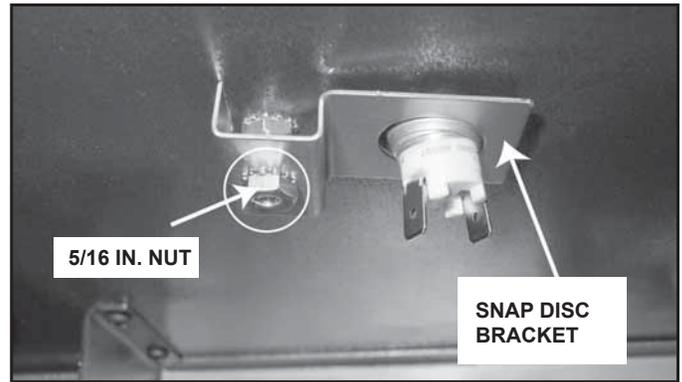

Figure 10
3. Install the snap disc in the bracket. Attach the bracket to the firebox with a 5/16" wrench. See Figure 10.